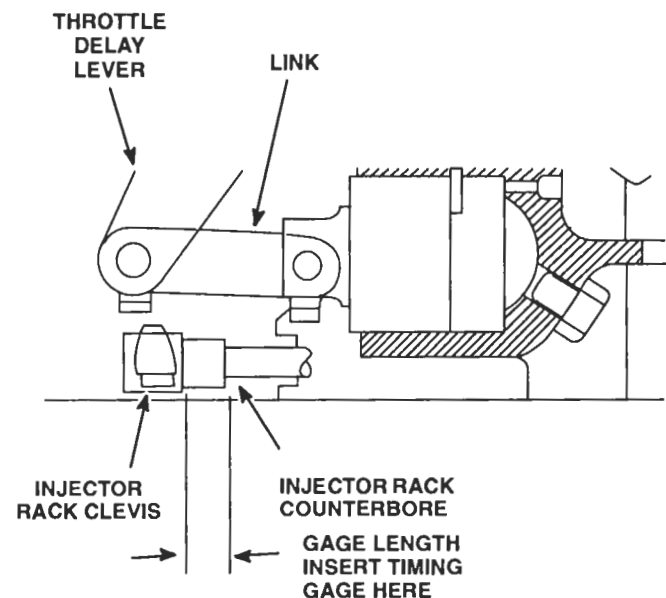

Figure 9. Rack Gage Positions
1. With the engine stopped, insert the correct rack gage between the injector body rack recess and the shoulder on the injector rack (Figure 9.) Use the injector next to and forward of the fuel modulator assembly. Insert the gage so that the handle is at a 45 degree angle.